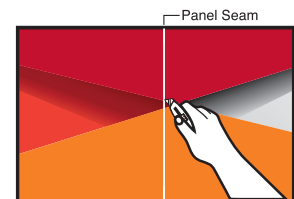

FIGURE 8
7. After applying the decals on the canopy, all canopy seams should be cut and tucked into the seam with squeegee edge. (FIGURE 8)